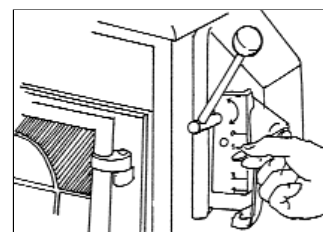

Figure 2: Open air fully by lowering air lever down to "4".
2. Push the air lever next to the side door all the way down to "4" to completely open the air damper. With the lever in the down position, maximum air is allowed into the firebox. (Fig. 2)